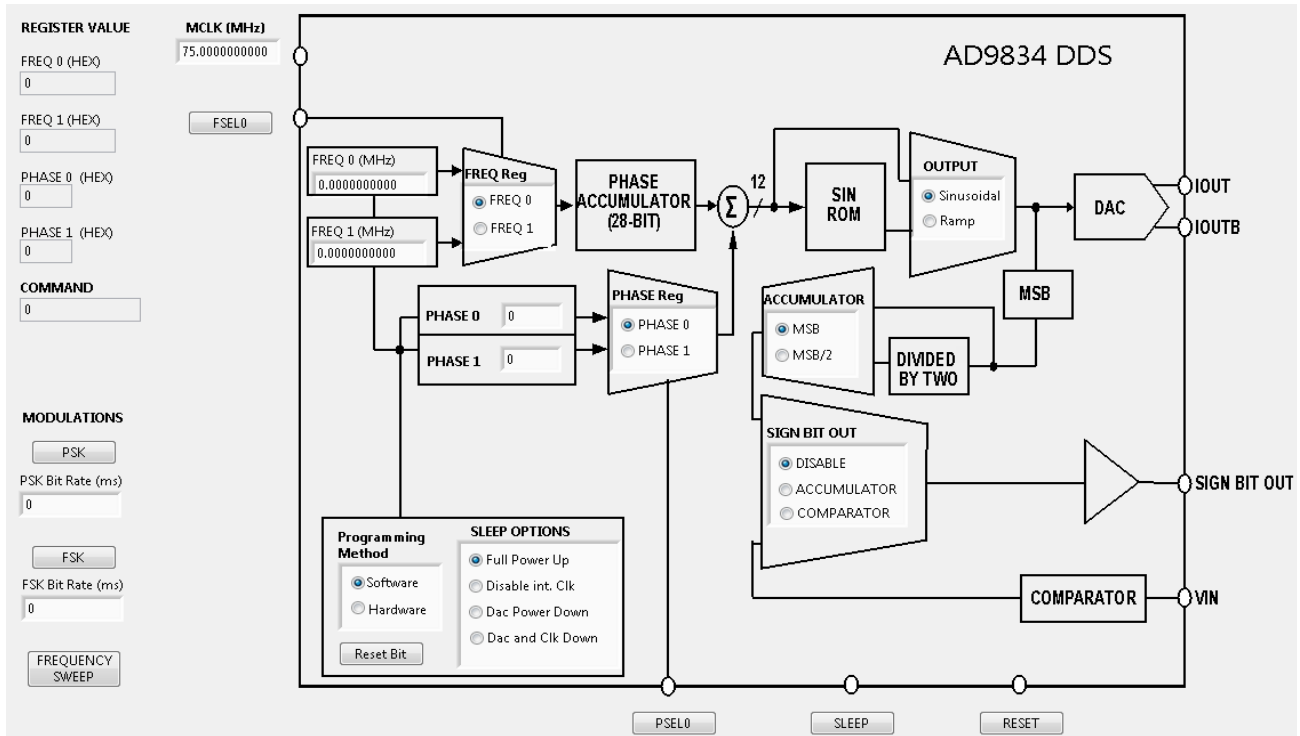

Figure 4. EVAL-CN-304-SDZ Evaluation Board Software
3. Ensure that all links are in their correct locations (see Table 1). The main window of the **EVAL-CN-304-SDZ** evaluation software then opens, as shown in Figure 4.